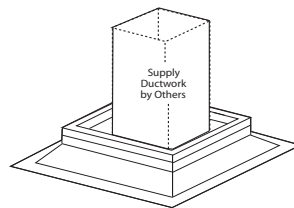

Figure 3 – Installing Ductwork
3. Good duct practices should be done in accordance with SMACNA and AMCA guidelines, NFPA 96 and any local codes. The ductwork should extend far enough above the roofline to meet the supply unit once it is installed. See Figure 3.